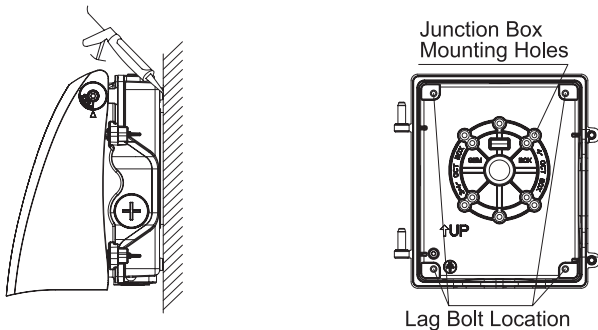

Fig. 3
3. Use the mounting pattern on the backplate to mount luminaire to a junction box or mounting surface (Fig. 3). Backplate can be separated from luminaire by lifting it from door hinges. If not mounting to a junction box, use the ½" threaded knockouts located on the bottom, left, and top of the luminaire for power supply entry.
4. Connect the wires according to the wiring diagram (Pg. 1). Apply a bead of silicone to the top and side of the fixture where it meets the wall or mounting surface to prevent water ingress from the back of the fixture (Fig. 3).